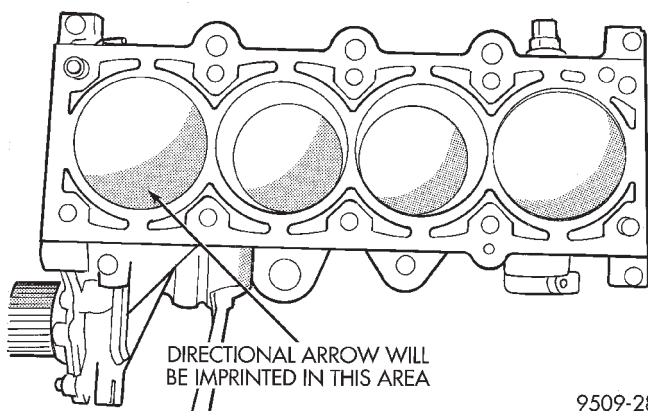

Fig. 82 Piston Markings
covered during this operation. Mark piston with matching cylinder number (Fig. 82).
(4) The directional stamp on the piston should face toward the front of the engine (Fig. 82).
(5) Rotate crankshaft so that the connecting rod journal is on the center of the cylinder bore. Insert rod and piston assembly into cylinder bore and guide rod over the crankshaft journal.
(6) Tap the piston down in cylinder bore, using a hammer handle. At the same time, guide connecting rod into position on connecting rod journal.